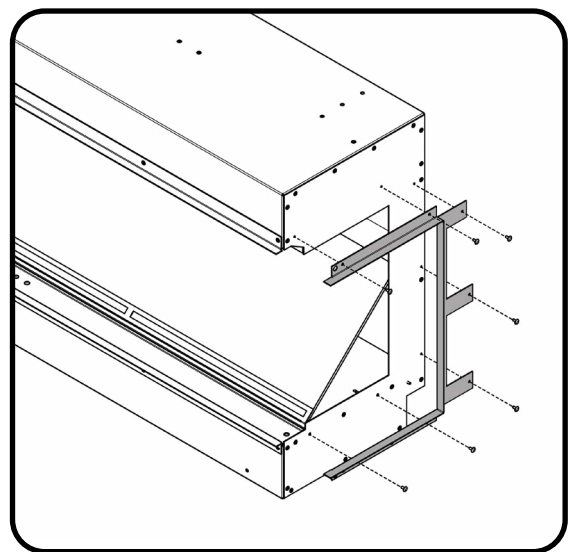

Fig 2.
- 2** Re-attach the plaster kit(s) using the same fixing points (**Fig 2**).